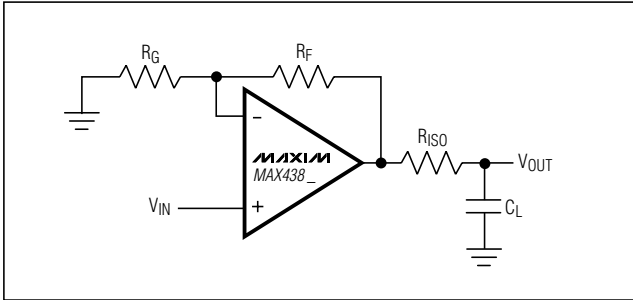
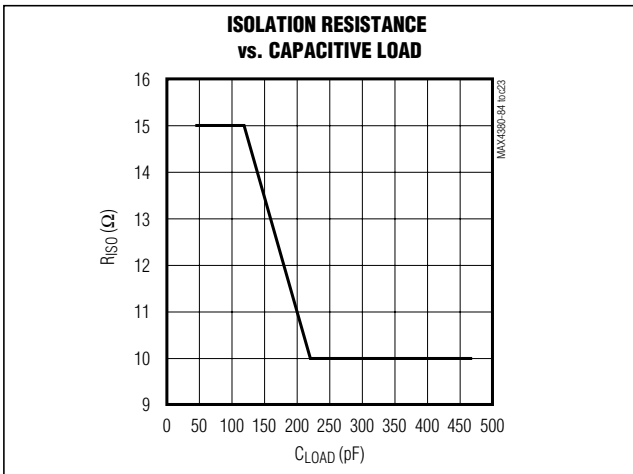
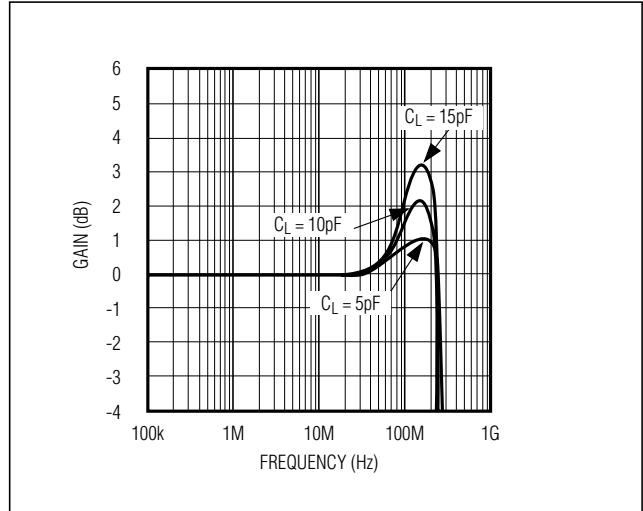
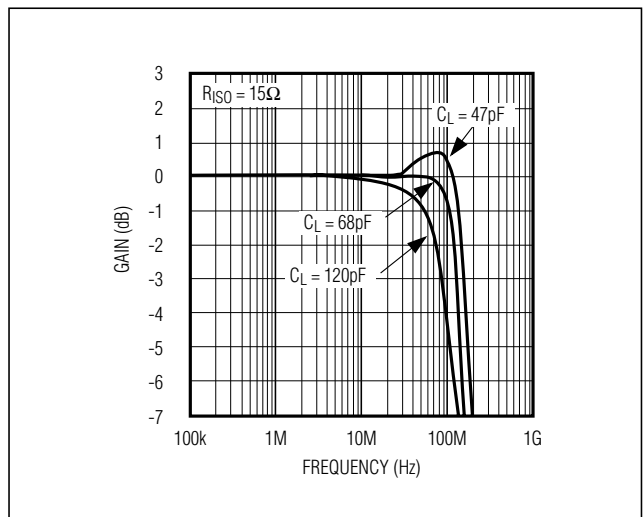

Figure 2. Driving a Capacitive Load Through an Isolation Resistor
Figure 3. Isolation Resistance vs. Capacitive Load
Figure 4. Small-Signal Gain vs. Frequency with Load Capacitance and No Isolation Resistor
Figure 5. Small-Signal Gain vs. Frequency with Load Capacitance and 27Ω Isolation Resistor
The MAX4380-MAX4384 are optimized for AC performance. They are not designed to drive highly reactive loads, which decrease phase margin and may produce excessive ringing and oscillation. Figure 2 shows a circuit that eliminates this problem. Figure 3 is a graph of the Optimal Isolation Resistor (RS) vs. Capacitive Load. Figure 4 shows how a capacitive load causes excessive peaking of the amplifier's frequency response if the capacitor is not isolated from the amplifier by a resistor. A small isolation resistor (usually 10Ω to 15Ω) placed before the reactive load prevents ringing and oscillation. At higher capacitive loads, AC performance is controlled by the interaction of the load capacitance and the isolation resistor. Figure 5 shows the effect of a 15Ω isolation resistor on closed-loop response.